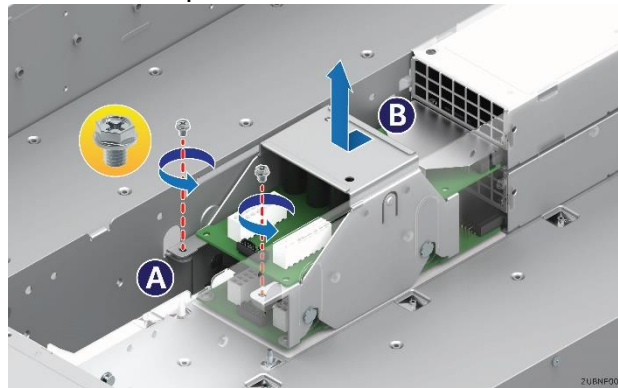

Figure 43. Removing the power distribution module
3. Remove the two screws (A) and slide the power distribution module and lift it (B) as pictured in Figure 43.